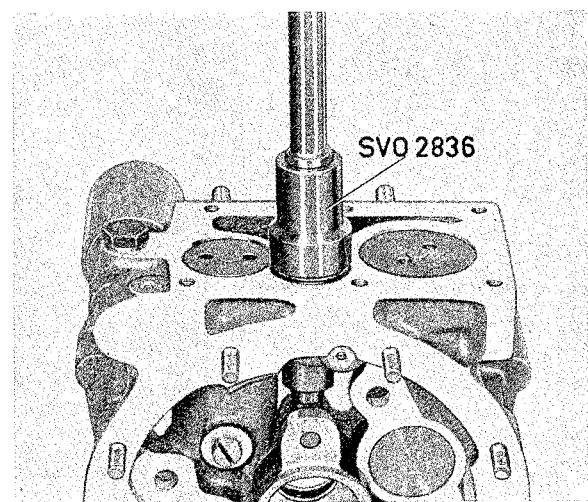
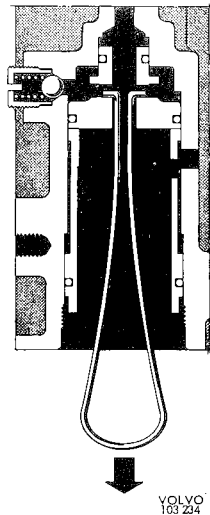

Fig. 4-41. Plug removal
Fig. 4-42. Relief valve removal
2. Remove the plug under the relief valve with tool 2836, see Fig. 4-41. Pull out the large piston of the relief valve, then the spring and spring retainer. Even the low-pressure spring will also be included in the removal. Then pull out the small piston with its spring and spring retainer, also the cylinder and end washer. Use a pair of pliers with narrow jaws for the piston unit and a loop, see Fig. 4-42, for the cylinder and washer.